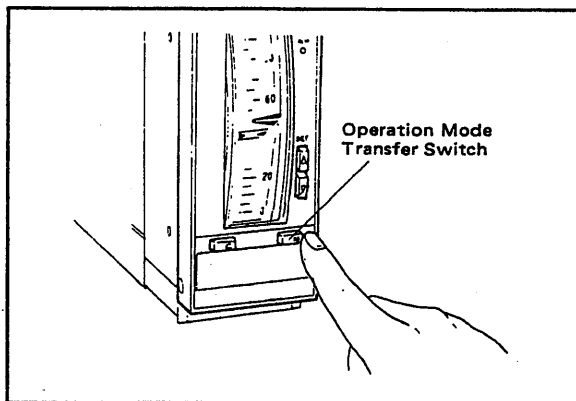

Figure 5-12. Operation Mode Transfer.
- (1) Press mode press switch on the front panel to set the instrument in manual operation mode. Insure that lamp lights. (See Figure 5-12).